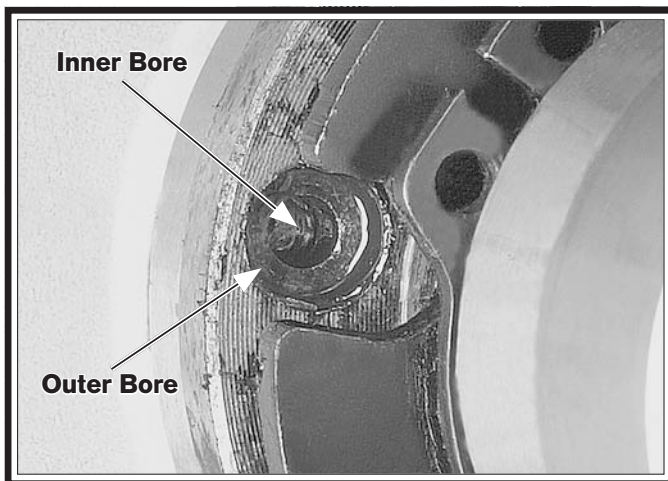

Figure 134. Shear pin bores aligned.
7. Rotate the lathe spindle to line up the inner and outer bores, as shown in **Figure 134**, and use the magnet to remove the other half of the broken shear pin.